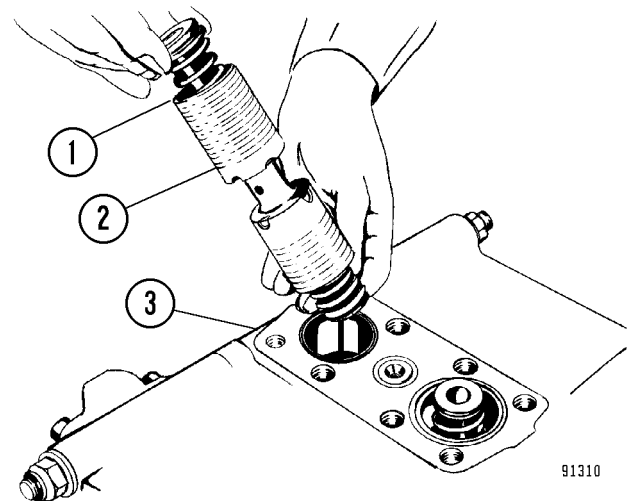

FIGURE 50-25. SPOOL INSTALLATION
7. Repeat Step 6 for the opposite end of spool assembly (20). Ensure that spring (16) is blue. A poppet and plug are not installed in the lower end.
8. Lubricate the spool assembly and carefully install it in the spool housing (See Figure 50-25). Make sure that "V" groove (1) in spool assembly (2) is positioned **up** as noted.
10. Repeat Step 9 for the bottom end of spool assembly (14). Ensure that spring (16) is blue.
11. Lubricate the assembled spool and install it in the spool housing (See Figure 50-25). Make sure that "V" groove (1) in spool assembly (2) is positioned **up** as noted.